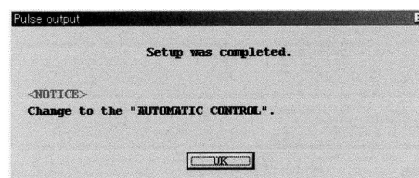

Fig.33
- ⑤ When the previous settings are replaced with the new settings just entered in response to clicking on "OK", a message box as shown in Fig. 33 appears. Clicking on "OK" button at this point completes the setup.